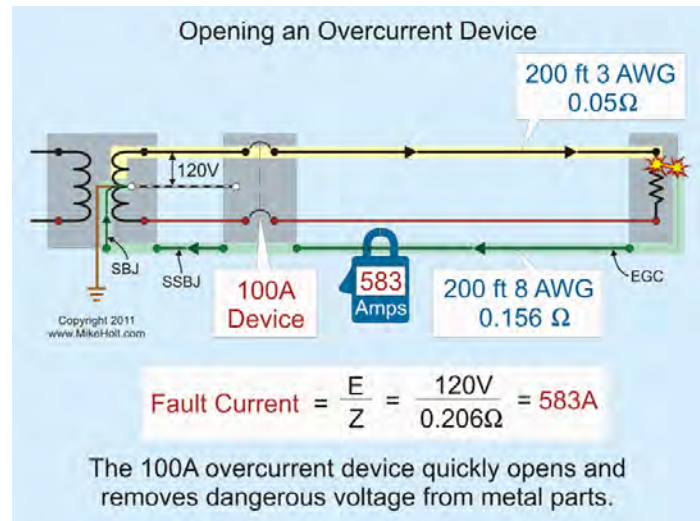

Figure 250-14
- To quickly remove dangerous touch voltage on metal parts from a ground fault, the fault current path must have sufficiently low impedance to the source so that fault current will quickly rise to a level that will open the branch-circuit overcurrent device. **Figure 250-14**